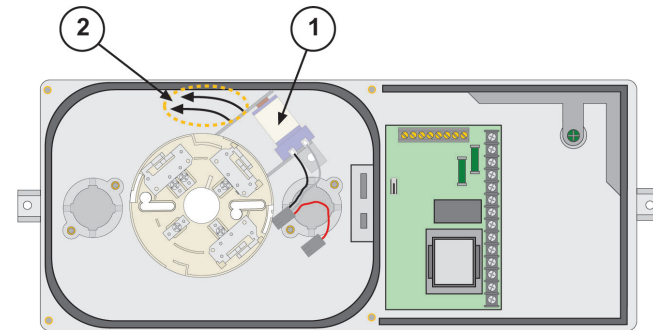

Figure 2.1: Test coil installation
2. Insert the test coil under the smoke detector base, rotating the coil until screw hole is aligned with the mounting plate as shown in Figure 2.1: Test coil installation.